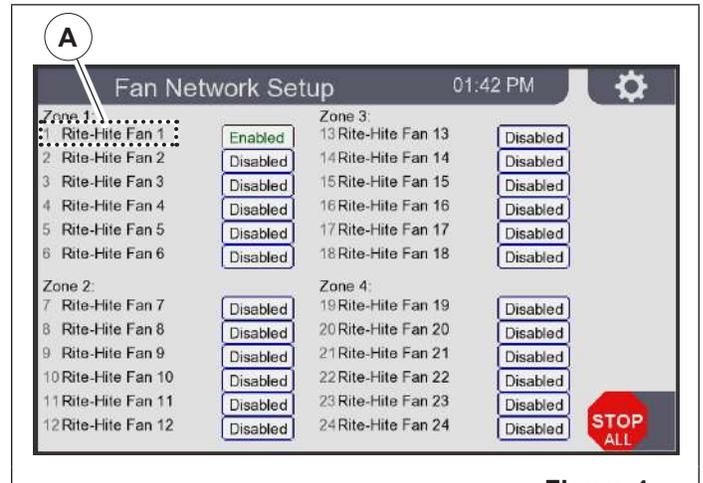

Figure 4
In the *Fan Network Setup* screen, touch the default fan name (e.g. (A) **(Figure 4)**) and enter a new name. The new name will be displayed on the *Zone Control* screens and *Diagnostics* screen for easier identification.
- Fan-Commander 2.0 *Fan Network Setup* is factory configured to communicate with a single fan (ID #1) **(Figure 4)**.